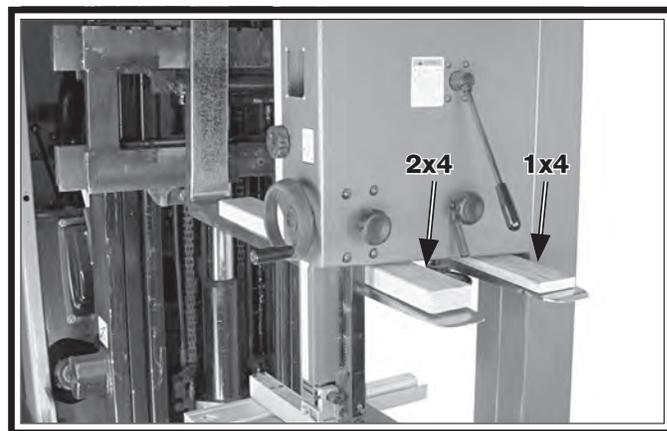

Figure 16. Example of lifting bandsaw with forklift and using wood blocks on forks.
3. Carefully place forklift forks under bandsaw head. Insert a 1x4 block between head and left fork, and a 2x4 block between head and right fork so bandsaw remains relatively level when lifted, as shown in **Figure 16**.